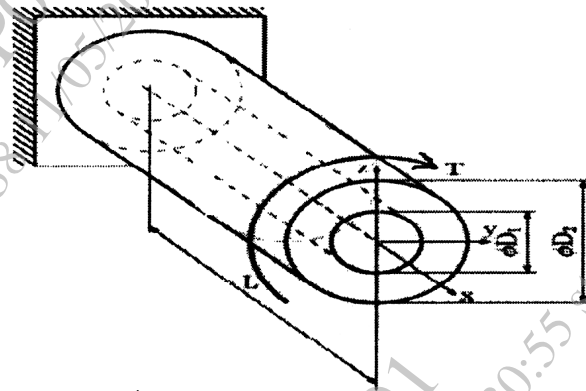

Fig 6
6. (a) For a hollow steel shaft shown in fig.6. applied torque is 2400 N-m. Length of shaft is 500mm, outer diameter D_2 is 50mm and inner diameter is D_1 is 40 mm. Determine maximum and minimum shear stress in the shaft and angle of twist at free end. Take modulus of rigidity 77 GPa [6M]